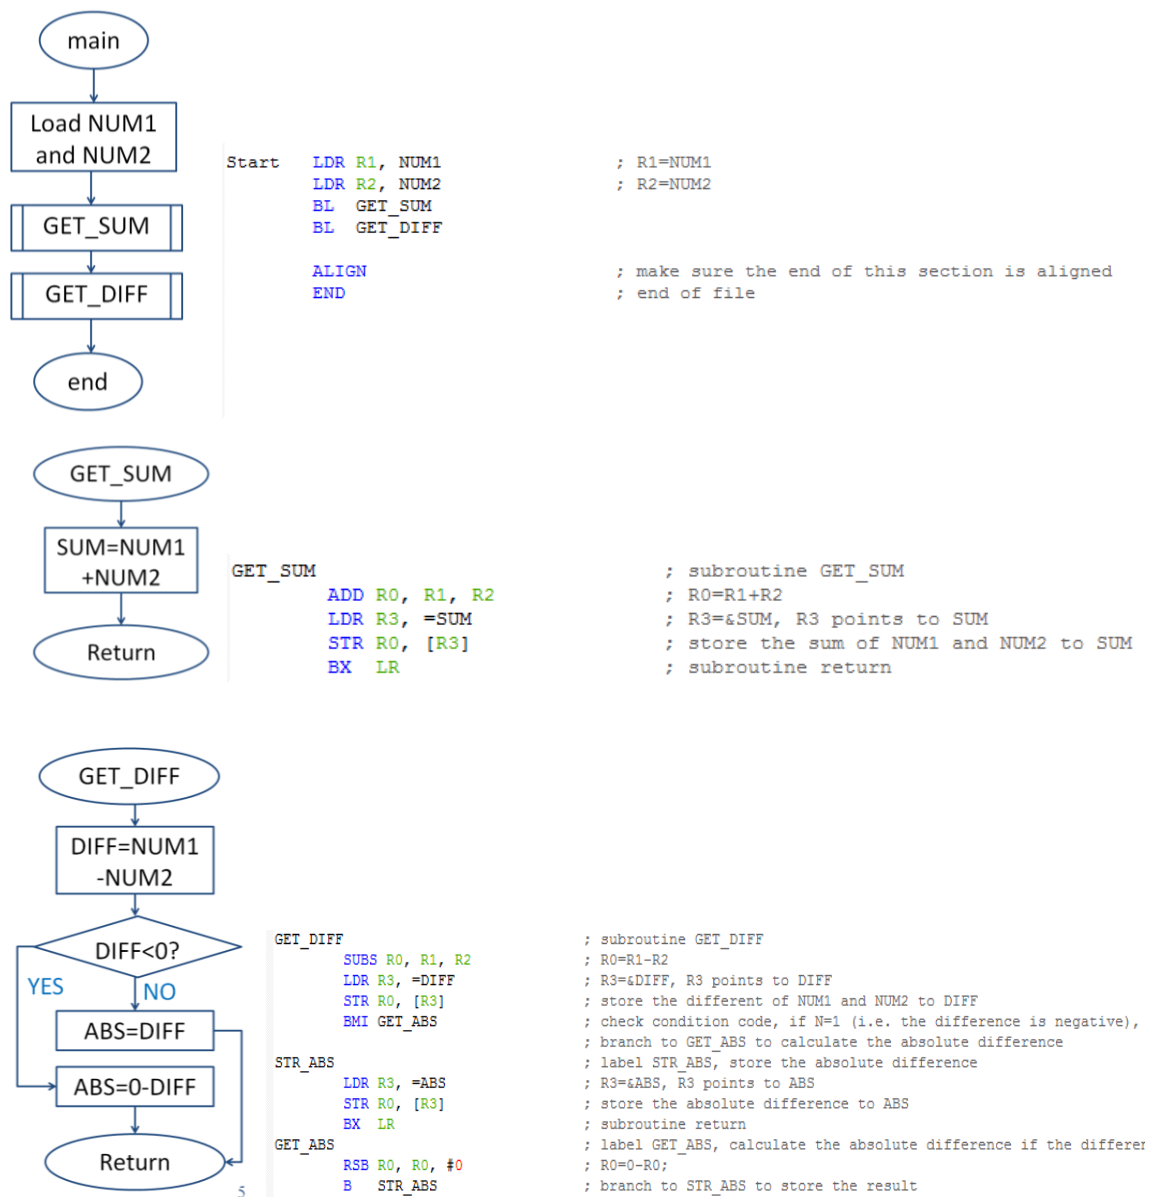

Figure 5
5. Understand the sample project *sim*. The sample project *sim* implements an assembly program that calculates the sum, difference, and absolute difference of two constant 32-bit signed numbers NUM1 and NUM2 and then stores the results in three defined variables SUM, DIFF, and ABS allocated in the RAM. Figure 5 shows the flowchart of the program. The program consists of a main routine and two subroutines GET_SUM and GET_DIFF. GET_SUM calculates the sum of NUM1 and NUM2 and stores the result into the variable SUM. GET_DIFF calculates the difference of NUM1 and NUM2 and stores the result into the variable DIFF. If DIFF is less than 0, the program calculates the absolute difference of NUM1 and NUM2 by calculating 0-DIFF, otherwise the absolute difference is equal to DIFF. The absolute difference is then stored in the variable ABS. If you are querying the usage of any instruction, you can search for the instruction (ctrl+F5) in the *Cortex-M3/M4F Instruction Set Technical User's Manual* or the *Thumb-2 Instruction Set Quick Reference Card* (both can be downloaded from iLearn->Reference Materials).